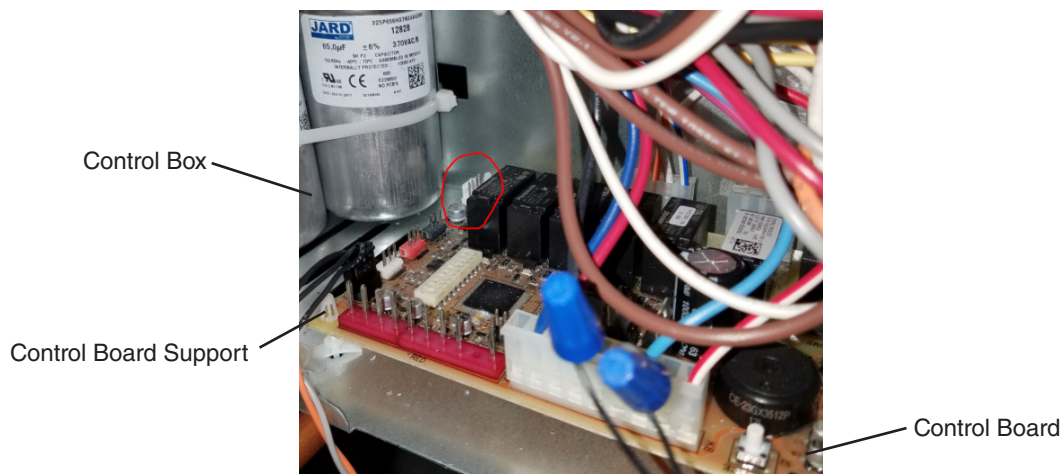

Fig. 1
- 3) Remove the current control board wiring connectors, then remove the control board. Place the new control board provided in this kit in its correct position. Secure all wiring connectors back in their correct positions. See Fig. 1. Note: The control board has a conversion label placed on the relays of the control board.